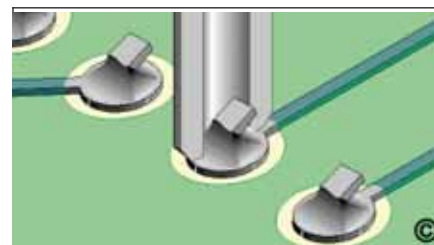

Figure 1
8. Confirm complete solder melt of contacted lead and apply vacuum. (See Figure 1.)